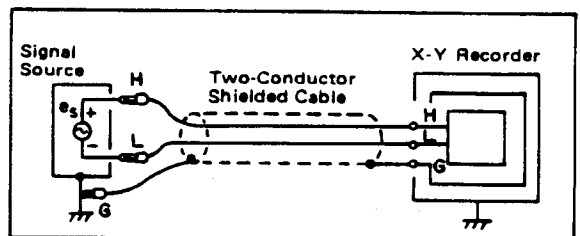

Figure 3-8.
- (4) When a signal source is shielded, terminal connection should be made as shown in Figure 3-8.